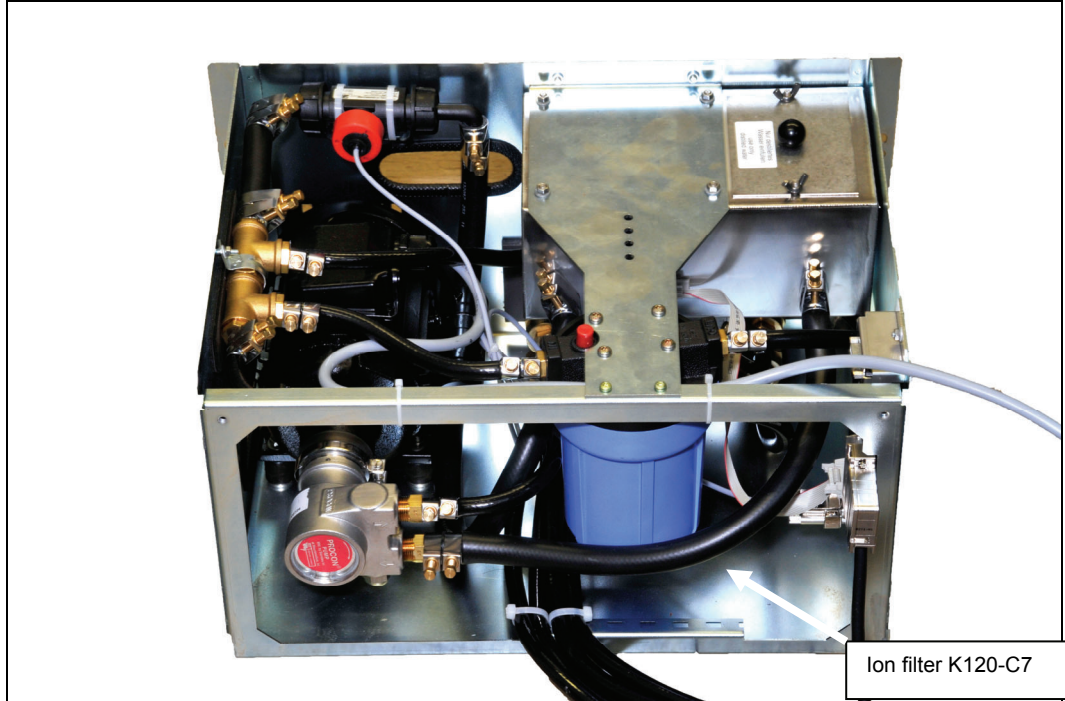
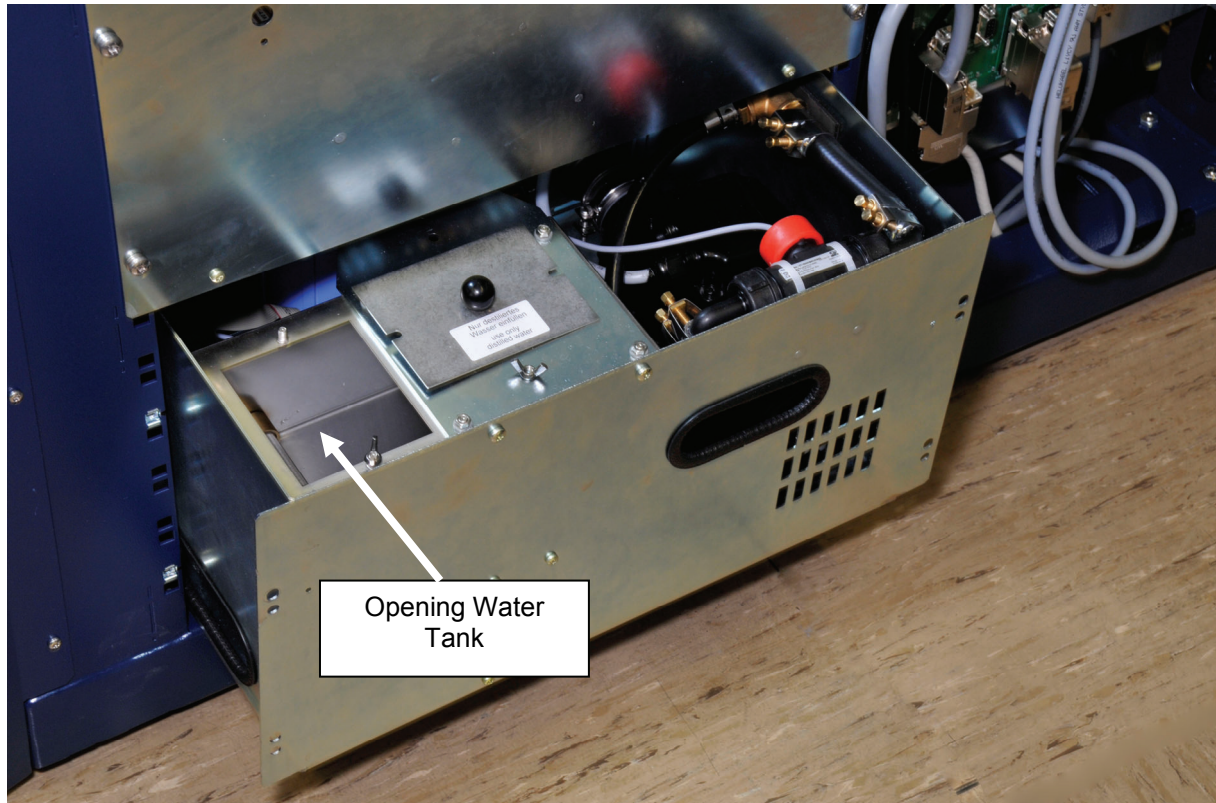

Fig. 14: Rear view of the optional internal cooling water unit (A14-A6).
Fig. 15: Refilling the water tank of the internal cooling water supply. Water tank is already open.
- Move the cooling unit slightly out of the cabinet (Fig. 15).
- Open the cover of the water tank (Fig. 14, Fig. 15).